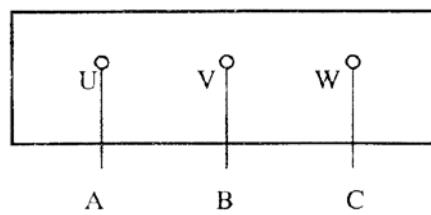

Figure 4 Wiring diagram of three terminals
**a)** For the junction box with three terminals, the terminals are marked separately with U, V and W. Pls see figure. 4 for its connection diagram.